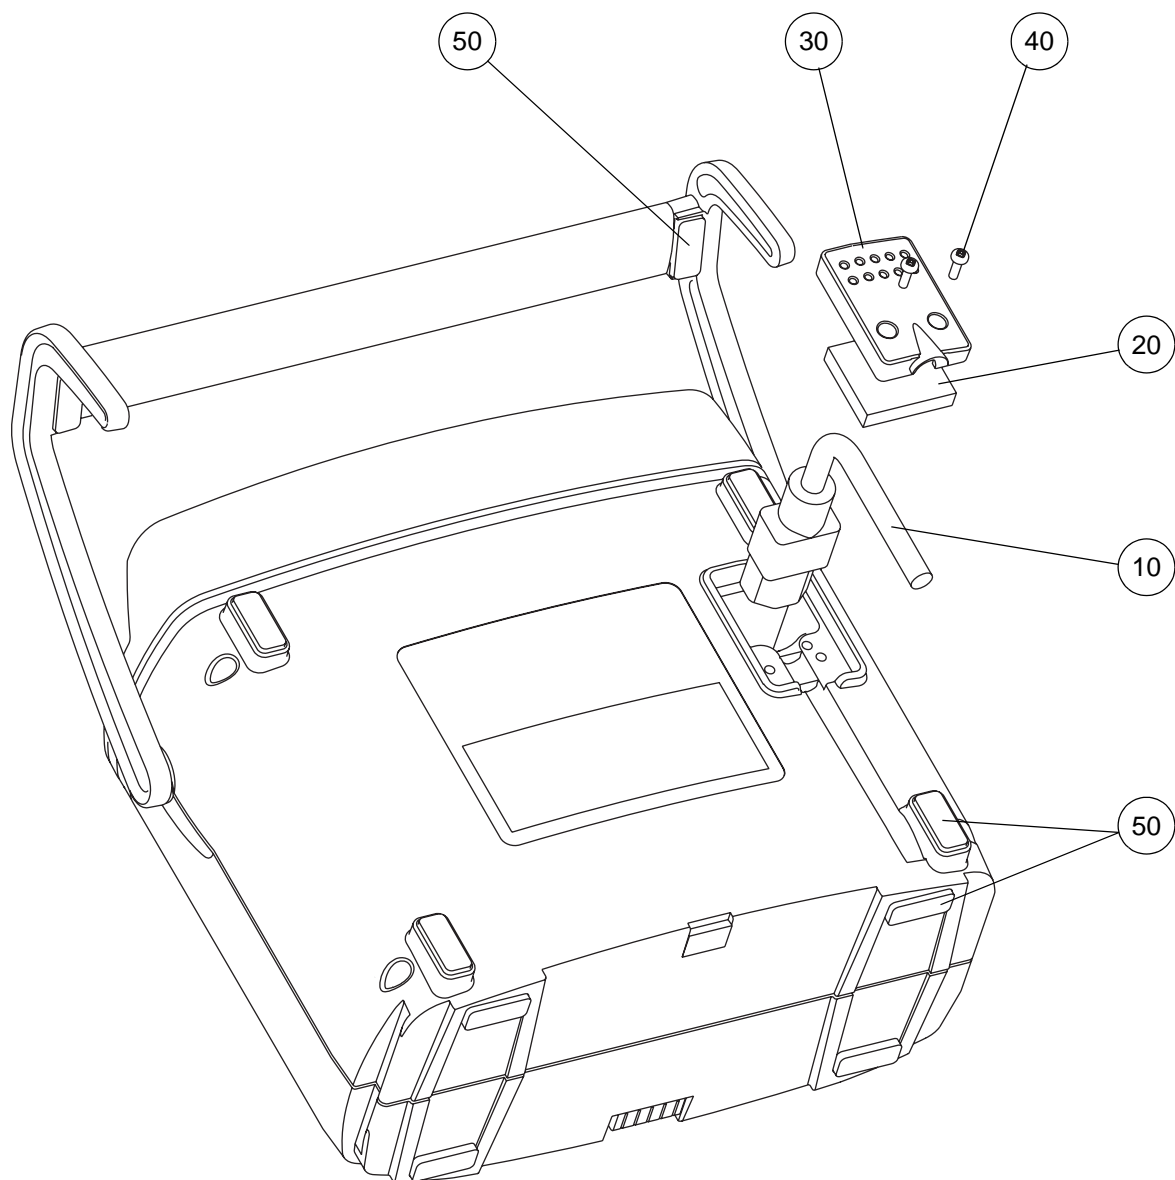

Figure 33 - Replacing the Mains/Power Cordset and Inlet Filter Felt
- 3.2 Remove the two screws (Fig 33, Item 40), the case IEC cover (Fig 33, Item 30) and the inlet filter felt (Fig 33, Item 20) out of the rear case.
Note: *The case IEC cover is a tight fit in the rear case. Removal of this cover is made easier if the two screws are removed completely from the cover, and then the mains/power cordset (Fig 33, Item 10) is gently moved up and down while the cover is removed.*
- 4.1 Make sure the mains/power IEC cordset connector (Fig 33, Item 10) is pushed fully into the IEC connector inside the pump. Place the cordset cable into the groove in the rear case.
- 4.2 Push the case IEC cover (Fig 33, Item 30) and inlet filter felt (Fig 33, Item 20) into the slot in the rear case.
- 4.3 Install the two screws (Fig 33, Item 40) to secure the case IEC cover.
- 5.2 Remove the inlet filter felt (Fig 33, Item 20) from the back of the case IEC cover (Fig 33, Item 30), and discard.
- 6.2 Pull the mains/power IEC cordset connector (Fig 33, Item 10) out of the IEC connector inside the pump.
CAUTION: *Make sure the replacement mains/power cordset (Fig 33, Item 10) is the correct type and rating, or the electrical safety of the pump may be impaired.*
- 7.1 Carefully push the mains/power IEC cordset connector (Fig 33, Item 10) fully into the IEC connector inside the pump. Place the cordset cable into the groove in the rear case.